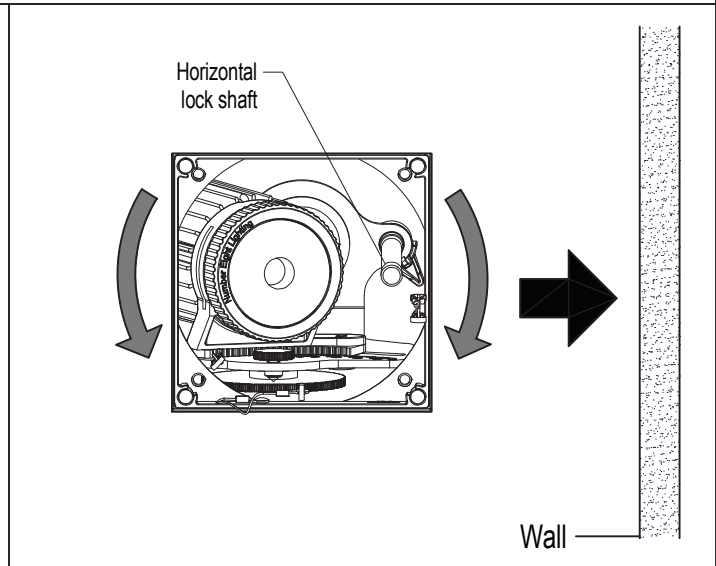

FIG 2.2 Adjust Horizontal position
Step 2 Unlock & adjust horizontal position to aim light towards wall surface to be illuminated-FIG 2.2.